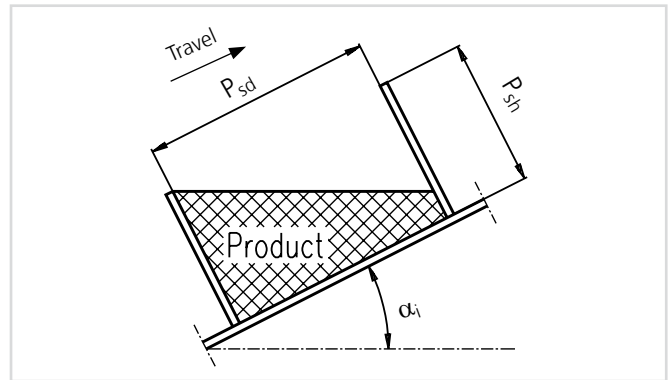

Fig. 5-6 Situation 2
2. The distance between the product supports will allow the product to lie as shown on fig. 5-6.
If $\text{InvTAN} \left(\frac{P_{sh}}{P_{sd}} \right) > \alpha_i$ - you have situation 2 on Fig. 5-6